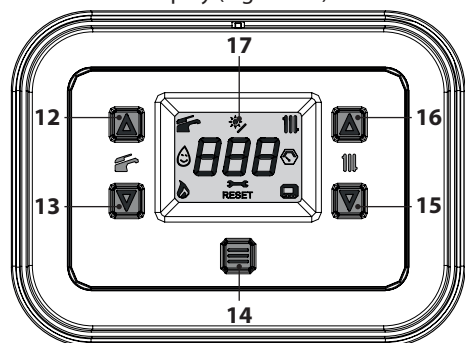
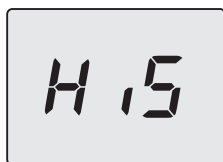
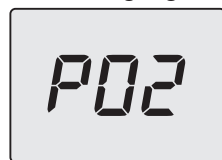
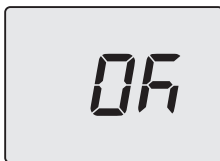

Figure 8.1
Figure 8.2
Figure 8.5
Figure 8.7
- Enter "programming mode" by pressing the 13 and 15 keys simultaneously for 5 seconds (Figure 8.1) until **HiS** (Boiler History) appears on the LCD display (Figure 8.2).
- Press the 14 key for 1 second (Figure 8.1) to enter the selected parameter. The display will show the following (Figure 8.5).
- press the 13 and 15 keys simultaneously for 5 seconds (Figure 8.1) (return to previous level).
- Press button 14 (Figure 8.1) to confirm the value entered. The display will show the following (Figure 8.7) for 5 seconds, then move up to the next level.
- By pressing the keys 13 and 15 simultaneously (Figure 8.1) exits the level without changing the value (return to the previous level Figure 8.4).